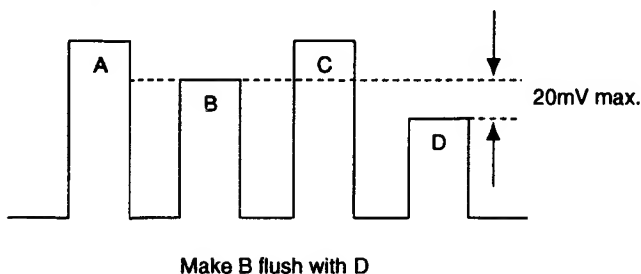

Fig. 5-12
3. Connect the probe of an oscilloscope to IC404 ③ PIN or TP402.
5. Adjust **SUB CHROMA NORMAL** so that the peaks of waveforms will be flush with each other as shown in Fig.5-12.
2. Input adjustment value 98 to **SUB CHROMA NORMAL**. (Fig.5-12)